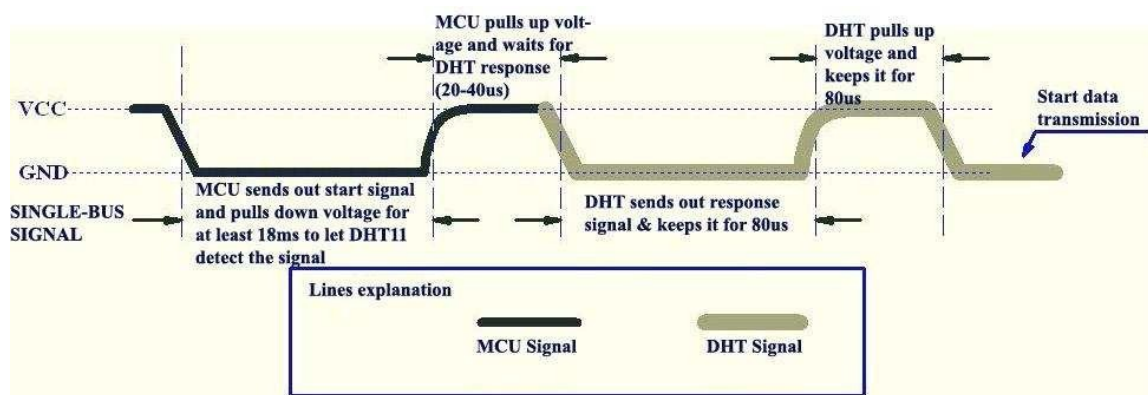

Figure 3 – MCU Sends out Start Signal & DHT Responses.
5.2 MCU Sends out Start Signal to DHT (Figure 3, below)
5.3 DHT Responses to MCU (Figure 3, above)